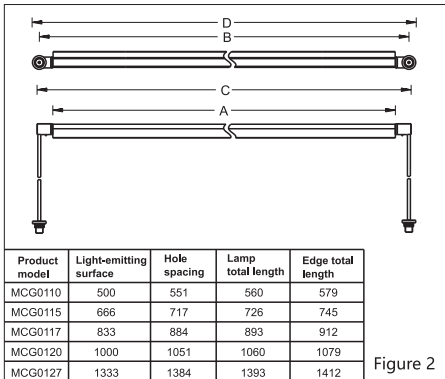

Figure 2
2. The spacing dimensions for lamp openings are shown in Figure 2.